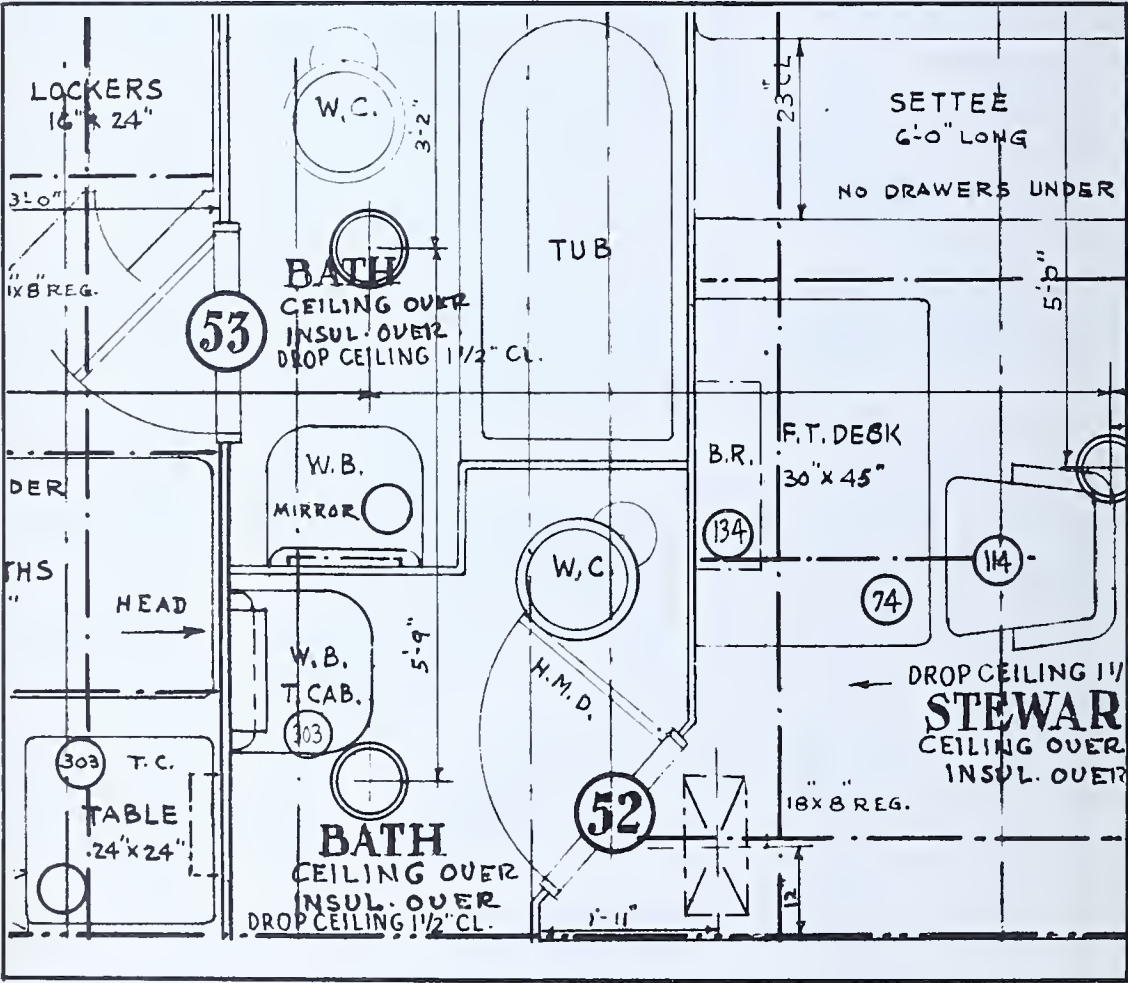

FIG. 171
In addition to the shape of an object the mechanic must know its size. Size is shown in a drawing by the use of lines, arrowheads, figures, etc., such as are indicated in Figure 171. Notice both the weight and construction of the lines used in dimensioning and check these with the rules for dimensioning given on page 167.
7. Holes are usually dimensioned by note. See Figure 171.